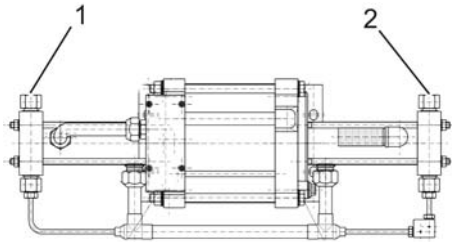

Fig. 14: Connecting inlet and outlet connections
1. ➤ Detach sealing plugs from inlet and outlet connections (Fig. 14/1 and 2).